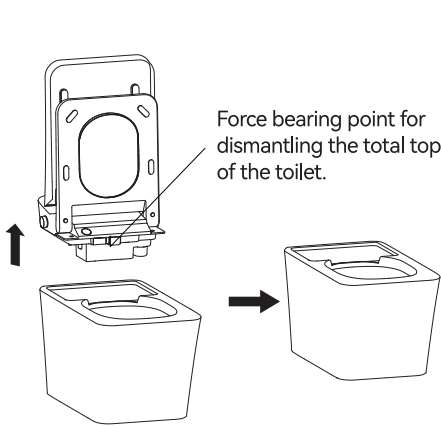

Figure 3
3. Grab the total top from the force bearing point to pull it up with strength to separate it from ceramic body. ( Note: be careful not to apply force on other positions). As shown in Figure 3.